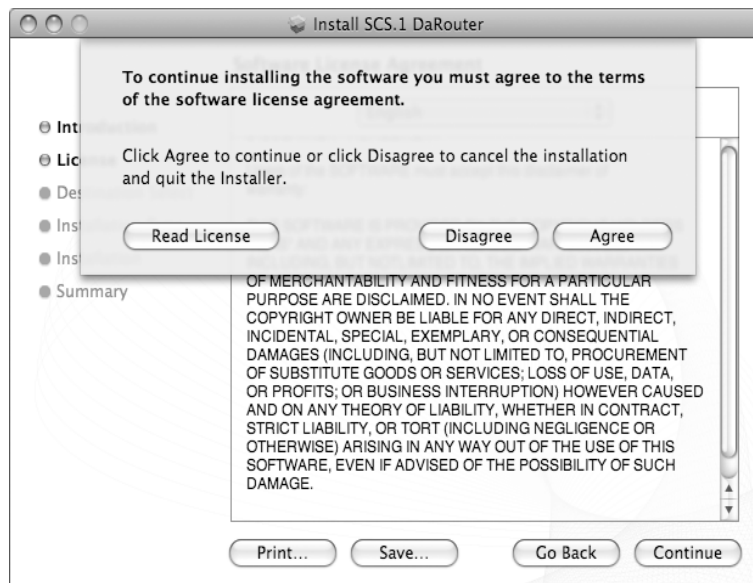

Figure 4.19
4. Read the license agreement and click **Continue**. In the next dialog, click **Agree**. (Figure 4.19)